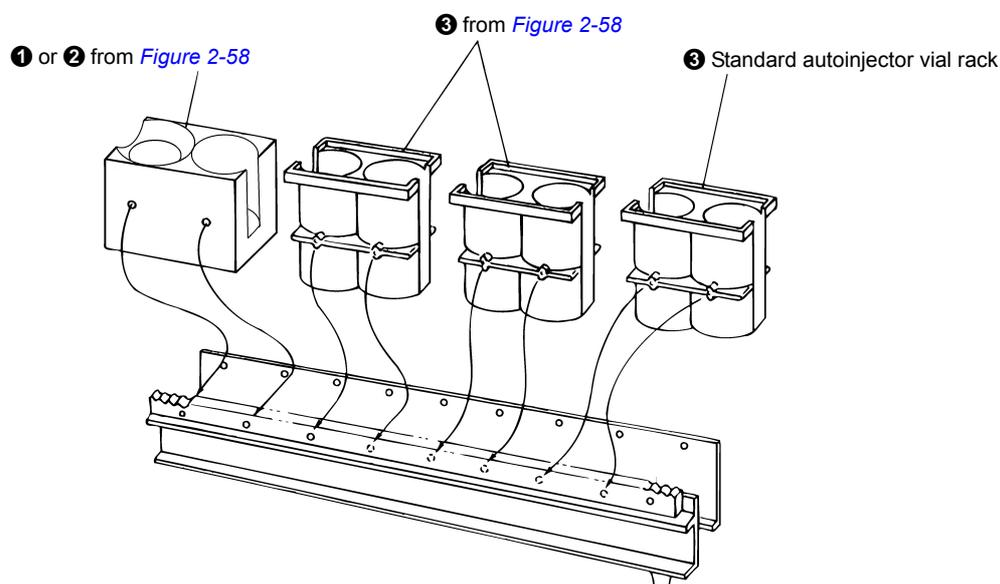
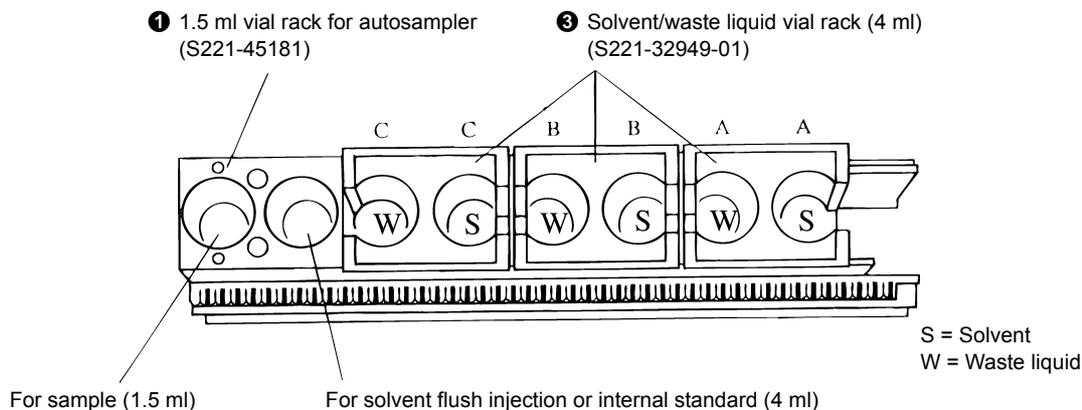
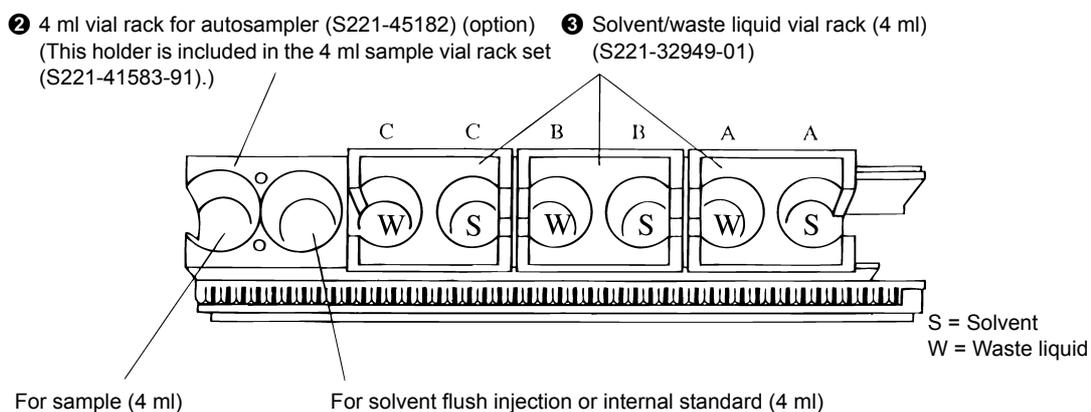

Figure 2-59
Figure 2-60 1.5 ml vial arrangement
Figure 2-61 4 ml vial arrangement
First, remove the current vial racks (for 6 vials) supplied with the autoinjector, by pulling them up. Then, insert the new vial racks in the arrangement shown in Figure 2-59. Spread the rack guide apart slightly to insert the vial racks. See Figure 2-60 and Figure 2-61 for details on vial placement.
Arrange the 1.5 ml or 4 ml vials as shown in Figure 2-60 or Figure 2-61.
As indicated in Figure 2-60 and Figure 2-61, solvent A (S) is discharged into the waste liquid A vial (W), and likewise for B and C. When washing with 3 solvents, each of the waste liquid is discharged into the waste liquid vials marked A to C. When washing with only one solvent, the waste liquid of sample wash is discharged into the waste liquid vial corresponding to the used wash solvent.
A solvent or standard needs to be placed in the second vial position shown in Figure 2-60 and Figure 2-61 only in solvent flush injection mode.